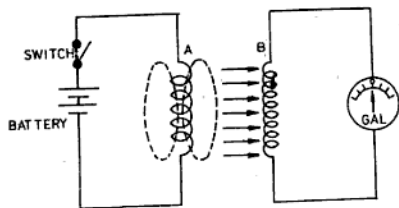

Fig. 11.7: Self and mutual induction
Mutual Induction Consider two coils *A* and *B*, placed side by side. A galvanometer is connected in the circuit of coil *B* and a battery, along with a switch is connected in the circuit of coil *A* as shown in Fig. 11.7.
emf and the process is known as *self-induction*. Now consider coil *A* (Fig. 11.7) which is connected to the battery through a switch and assume that coil *B* is not placed near it. The moment the switch is closed, a changing current will start flowing in the coil, which produces a changing flux linked with the coil itself and thereby inducing an emf in it. This induced emf is the self-induced emf or reactance emf (opposes the main supply voltage) and the whole phenomena is *self-induction*. The reactance emf is represented by *L* and is known as *self-inductance* of the coil. Its unit of measurement is henry (H).